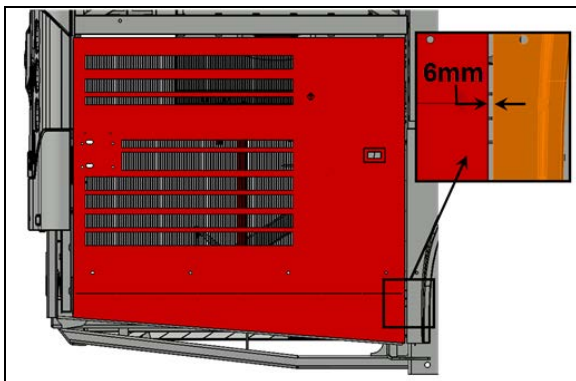

FIGURE 55
7. Check the gap between the door and the adjacent panel at the level of the lower attachment point of the arm on the door. The gap should be $\frac{1}{4}$ " (6 mm) (FIGURE 55).